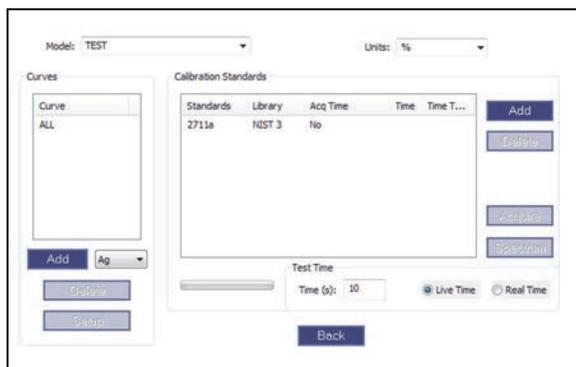

Figure 6-9 Model and Units selection
3. On the **Test Condition** pane, click **Build Model** to display the next pane (see Figure 6-9 on page 88).